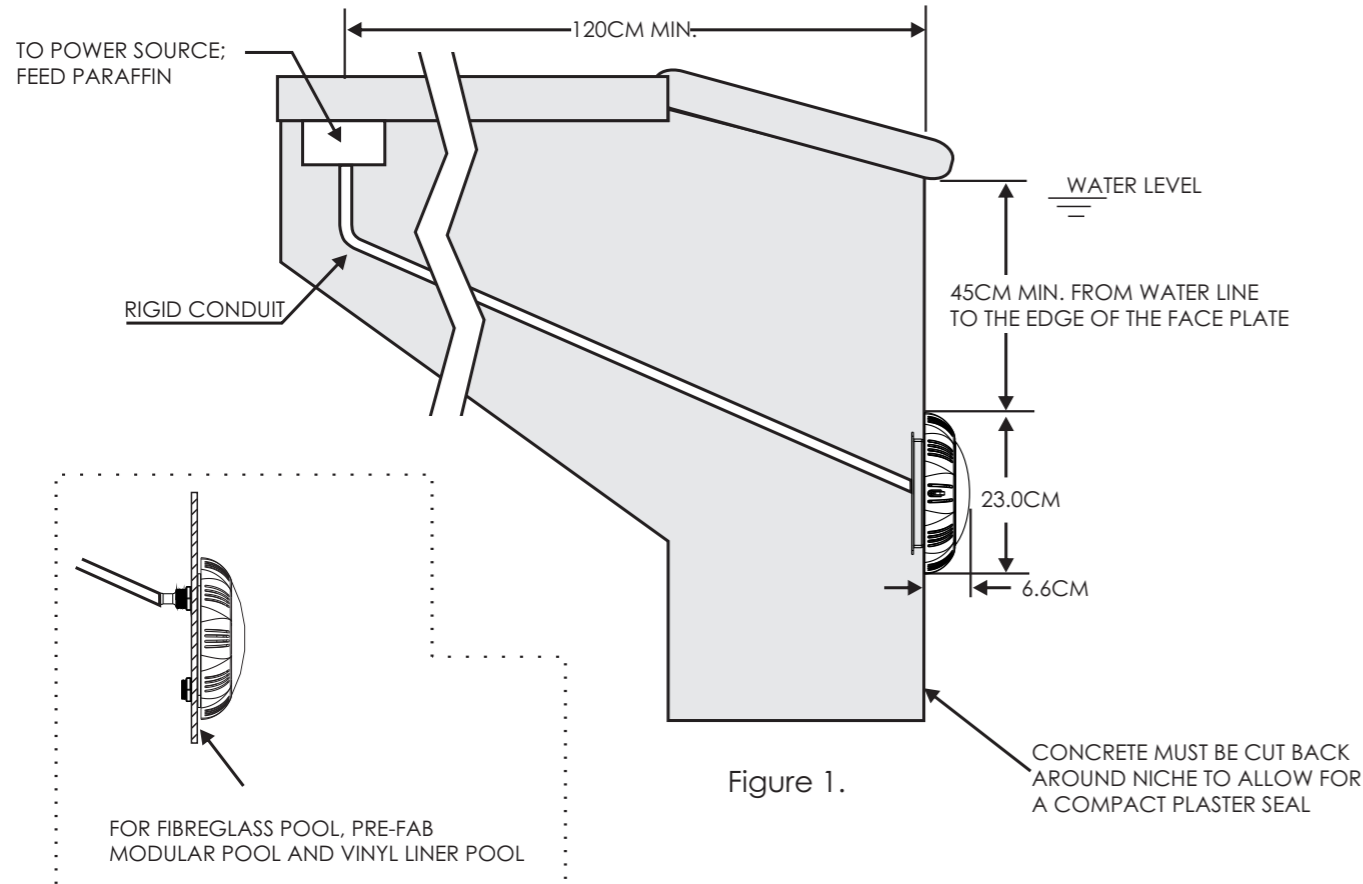

Figure 1.
A) Preparatory steps which must be completed by the electrician before light is installed, see Figure 1.
a) The junction box, or the low voltage transformer for 12 volt Underwater Light model is to be located at least 120CM from the edge of the pool, see Figure 1.
c) The mounting bracket must be properly installed so that the top edge of the Underwater Light lens is at least 45CM below the surface of the water in the pool, see Figure 1.
1) Locate position on a vertical wall where light is to be installed. The edge of the face plate must be 45CM below normal water level, see Figure 1.